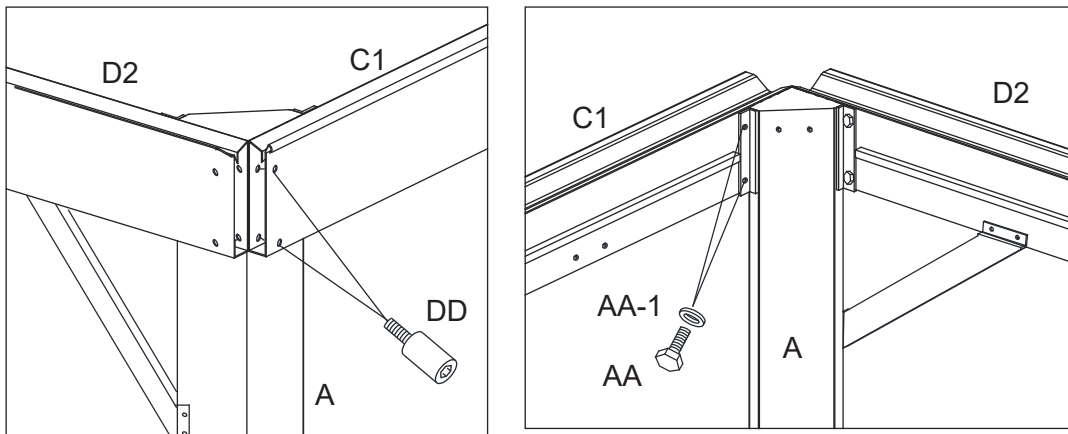
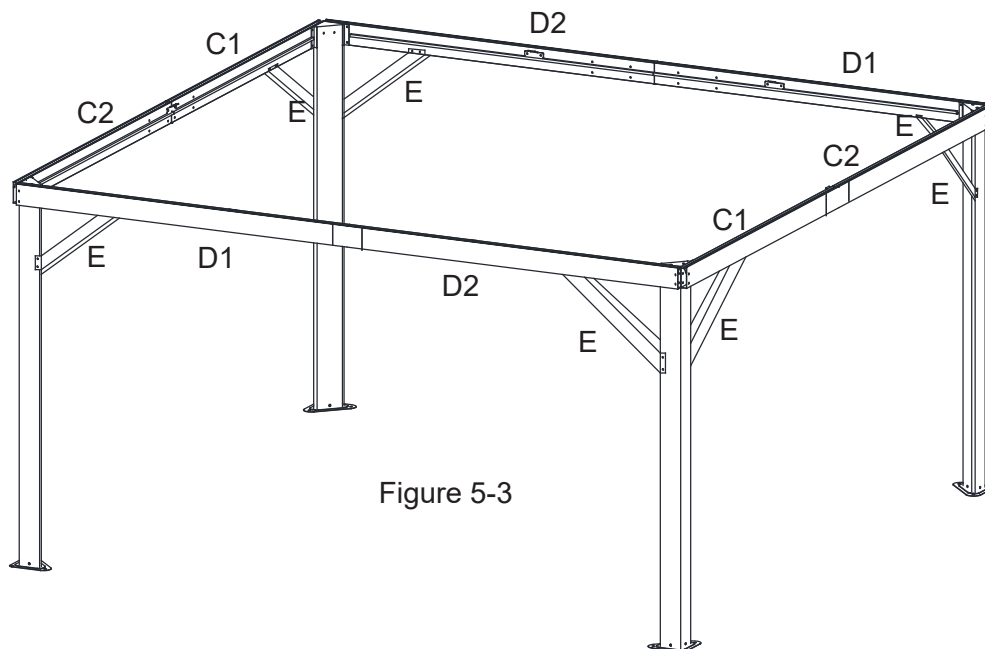

Figure 5-1
Figure 5-3
5.1. Attach Short Lintel (C1 and C2) to Corner Posts (A) first with Bolts (AA) and Steel washer (AA-1) then with Bolts (DD). Tighten Bolts. Repeat for opposite side Short Lintels (C1 and C2). Tighten all Bolts. See Figure 5-1 and Figure 5-3.
5.3. Repeat for all Corner Posts and Lintels. Tighten All Bolts. See Figure 5-3.